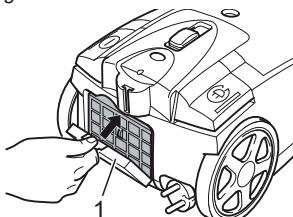

Fig. 30
9. Then put the hygienic exhaust filter cover (Fig. 30/1) back into place. First hook this in on the bottom side and then press it up and forwards until you hear and feel it click shut.